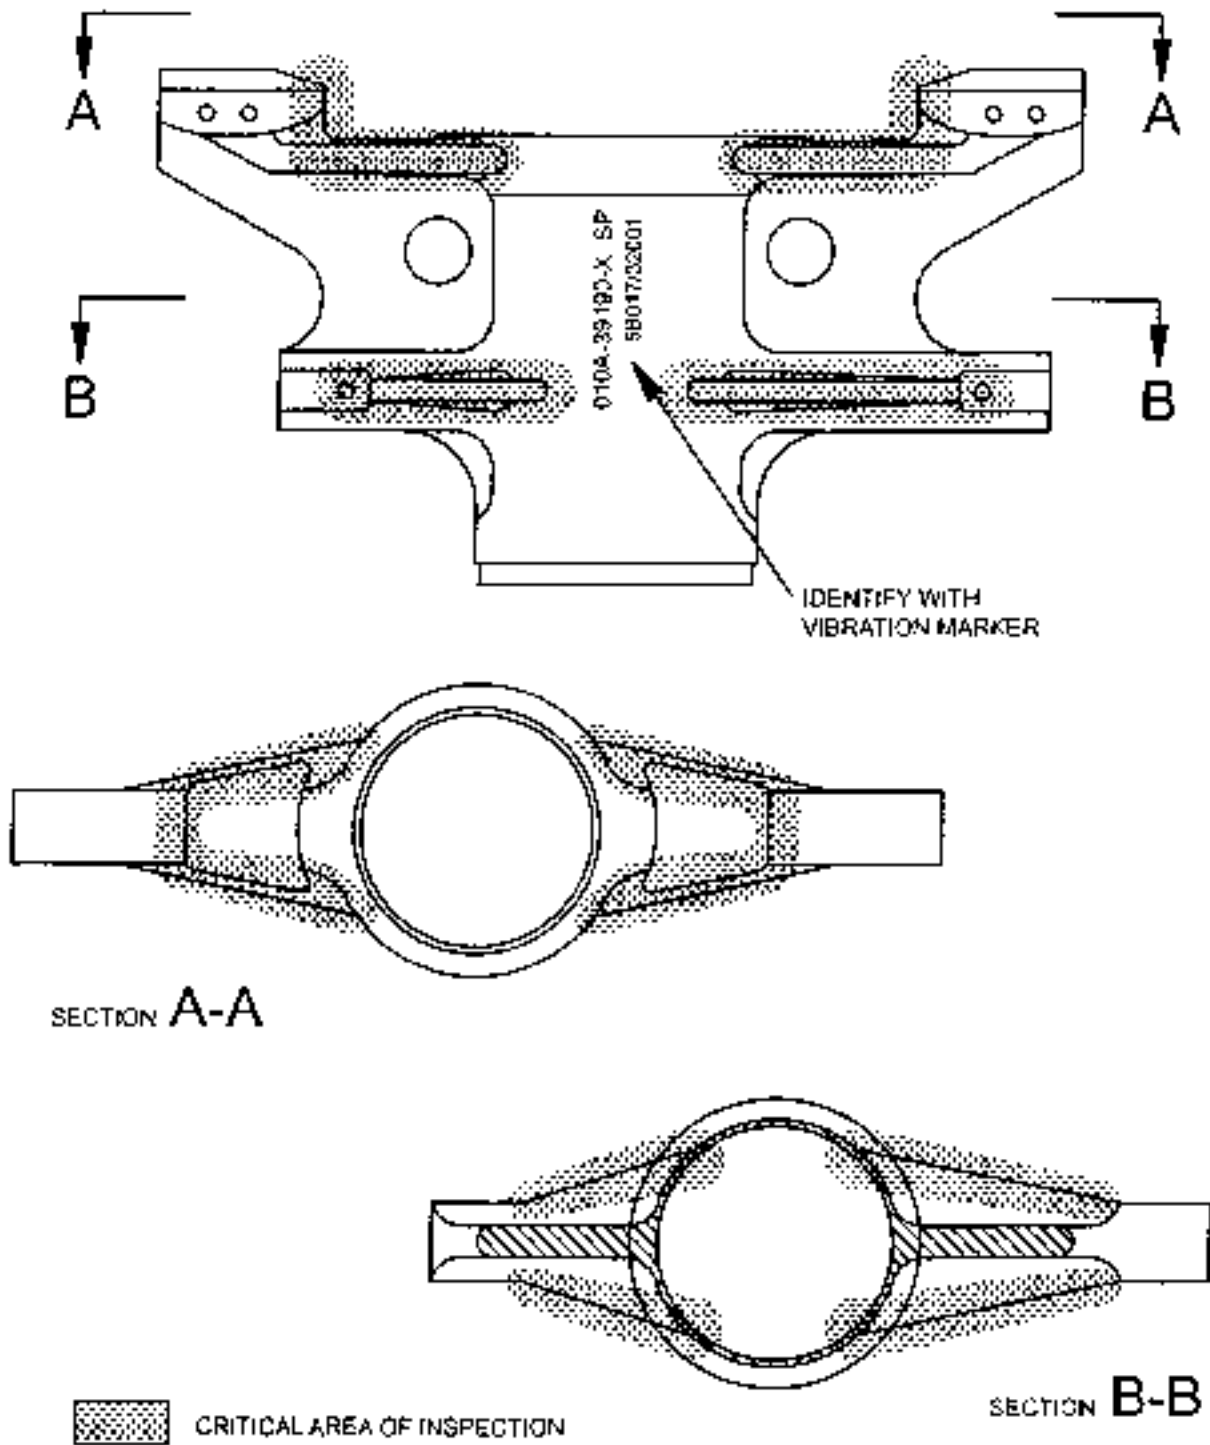

Fig. 4-6A 010A-3919C-11/-13 Tensioner inspection area
- (a) Remove paint and clean the entire surface from affected area of the part to be inspected with Methyl Ethyl Ketone or equivalent. (Refer to Fig. 4-6A for inspection area.)